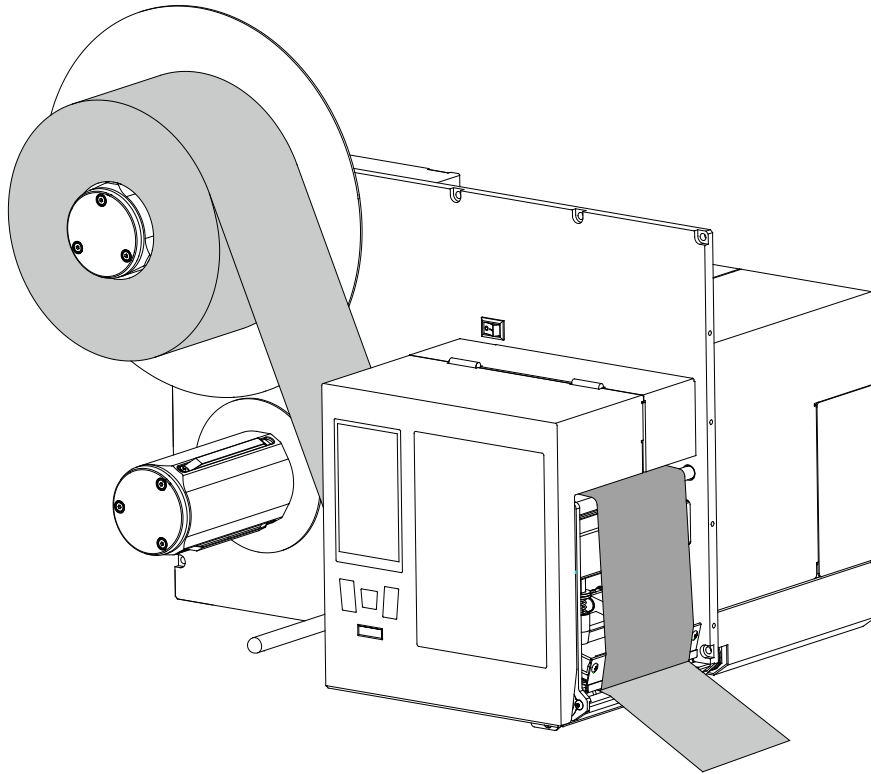

Figure 2-23 Close the Flip-up Cover
7. Close the flip-up cover. Enter the LCD touch-screen settings menu and set the printed label handling mode to Tear-off Mode (please refer to 3.2.1.7 Printed label handling). As shown in Figure 2-23.